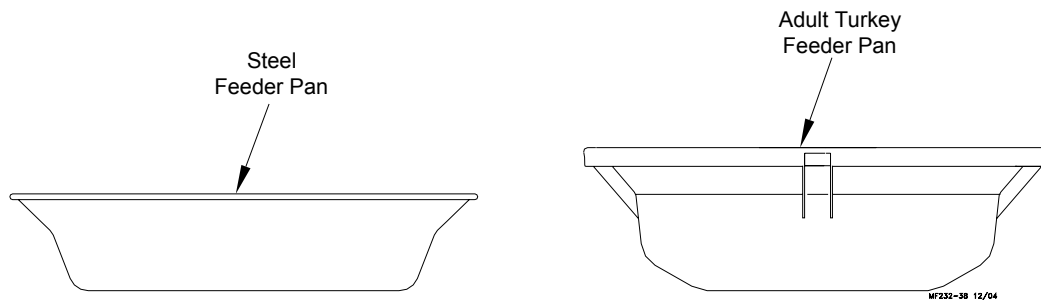

Figure 23. Feeder Pans
2. Determine which feeder pan (Adult Turkey or Steel) is to be installed, see figure 23.